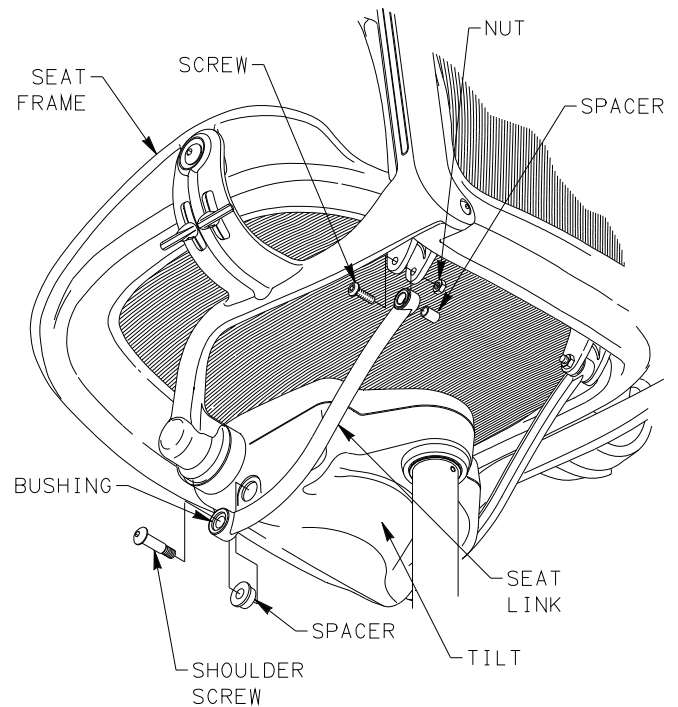

FIGURE 1
1. WHILE SUPPORTING SEAT LINK USE 10MM SOCKET, RATCHET WRENCH AND 4MM HEX KEY TO REMOVE NUT, SCREW AND SPACER ATTACHING SEAT LINK TO SEAT FRAME. SET ASIDE NUT, SCREW AND SPACER. REPEAT FOR OPPOSITE SIDE. SEE FIGURE 1.
2. WHILE SUPPORTING SEAT LINK USE 6MM HEX BIT AND RATCHET WRENCH TO REMOVE SHOULDER SCREW AND SPACER ATTACHING SEAT LINK TO TILT. SET ASIDE SHOULDER SCREW AND SPACER. REMOVE SEAT LINK WITH BUSHINGS. REPEAT FOR OPPOSITE SIDE. SEE FIGURE 1.
5. WHILE HOLDING BUSHINGS IN FRONT MOUNT OF SEAT LINK, ATTACH FRONT MOUNT OF SEAT LINK TO TILT WITH SPACER AND SHOULDER SCREW. TIGHTEN AND TORQUE SCREW TO 120-150 IN-LBS. REPEAT FOR OPPOSITE SIDE. SEE FIGURE 1.
6. MAKE CERTAIN SPACER AND ALL BUSHINGS ARE ACCOUNTED FOR AND BUSHINGS ARE ORIENTED TO NOTCH IN SEAT LINK. WHILE HOLDING BUSHINGS IN SEAT LINK, ATTACH SEAT LINK TO SEAT FRAME WITH SCREW, SPACER AND NUT. TIGHTEN NUT UNTIL FLUSH WITH END OF SCREW. REPEAT FOR OPPOSITE SIDE. SEE FIGURES 1 AND 2.